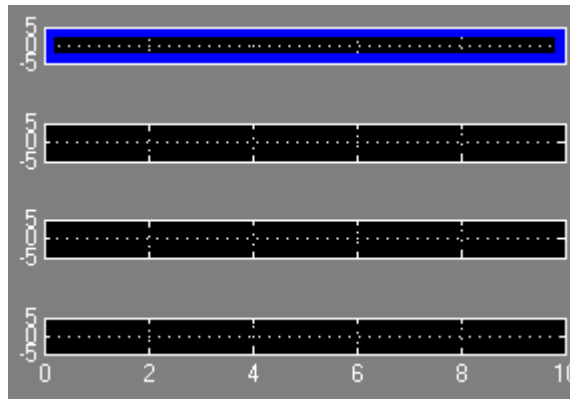

Figure 14.11. Specifying display of a signal on the Floating Scope
1. To specify the display of the sine waveform on the first (top) axis, we click on that axis. Simulink draws a blue border around that axis as shown in Figure 14.11.